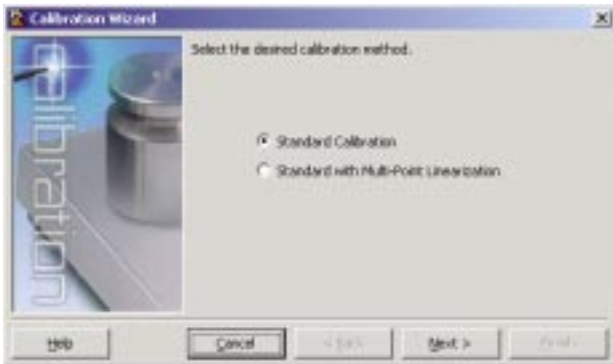

Figure 4-3. *iRev* Calibration Wizard
1. On the first Calibration Wizard display (see Figure 4-3), select whether you are performing a standard (zero and span) calibration or a multi-point linear calibration. Click the *Next* button to continue.